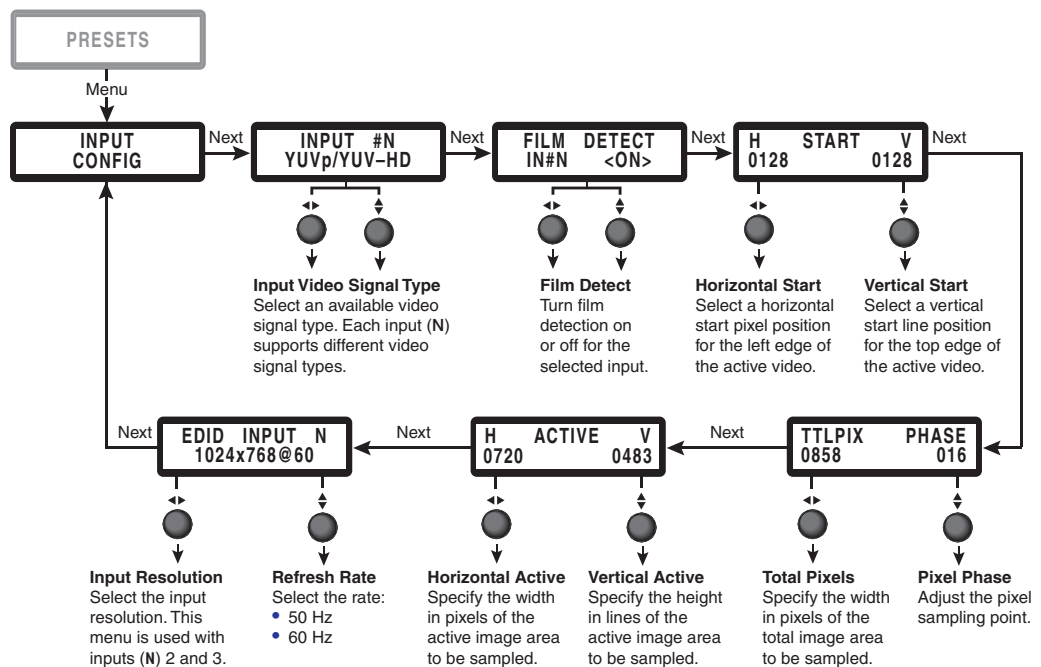

Figure 17. Input Config Submenu Overview
The **Input Config** menu is used to select and configure a video signal type for the currently selected input. Figure 17 and the information that follows provide an overview of the submenus and the options that are available.
1. Select an input from the front panel of the SME 100 (see item ② in the "**Front Panel Features**" section on page 11).
4. Rotate either Adjust knob to configure the settings of the selected submenu (see **figure 17** on page 26 for information on using the Adjust knobs).